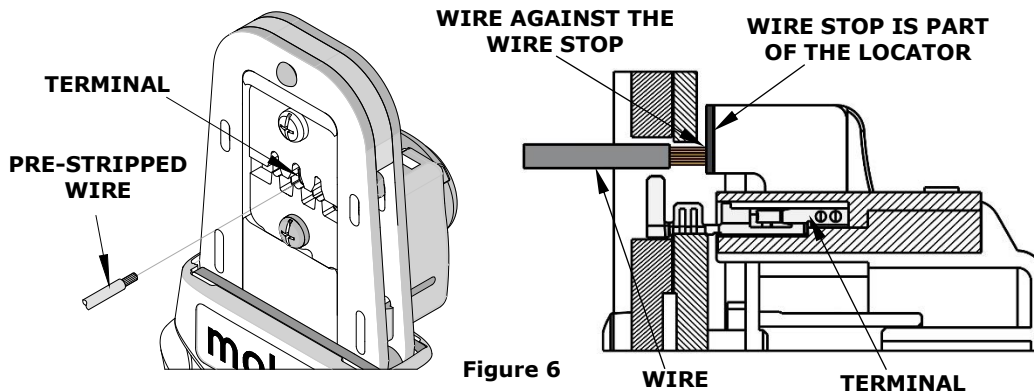

Figure 6
6. Insert the properly stripped wire above the terminal and against the wire stop. See Figure 6.